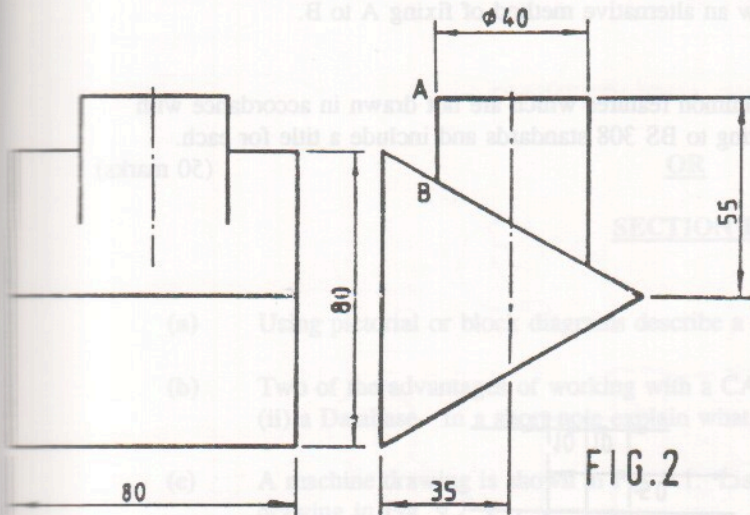

FIG. 2
2. Fig. 2 shows an incomplete elevation and end view of the junction between an equilateral triangular duct and a circular pipe.